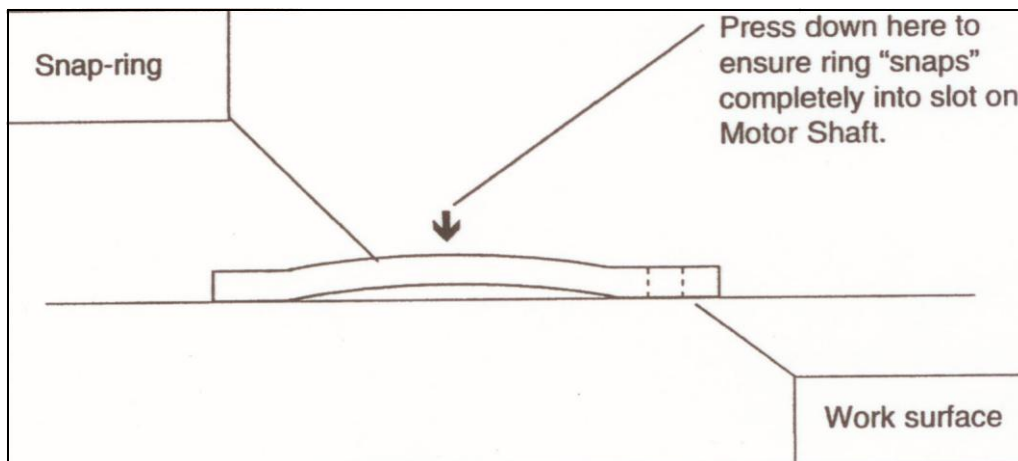

Figure 13-13 **Concave View of Snap-Ring**
21. The snap-ring that secures the wave generator bearing to the motor shaft is not flat. When seen from the side, its shape has a slight bend or curve to it as shown in Figure 13-13. Place the snap-ring on a work surface with the concave side down and pick it up with the snap-ring tool. Be careful not to expand it more than necessary.
23. Use a #1 standard screwdriver to press down on the top, convex surface of the snap-ring until it fully snaps into its slot. See Figure 13-13.